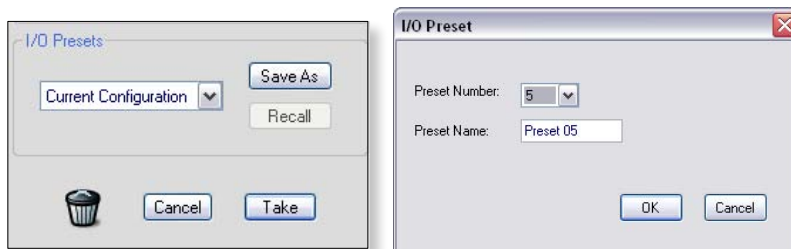

Figure 5-21 — Click "Save As" to open the I/O Preset selection window
1. With "Current Configuration" visible in the I/O presets field, click **Save As**. This opens a separate window, I/O Preset (see figure 5-21).
2. In the I/O Preset window select a number from the drop down box. The Preset Name field will auto fill with "Preset xx", where "xx" is the number selected (see figure 5-21).
NOTE Clicking **Cancel** in the I/O Preset window (figure 5-21, right image), at any time before completing Step 3, closes that window and reverts back to the I/O Presets window (figure 5-21, left image), without saving to any preset.